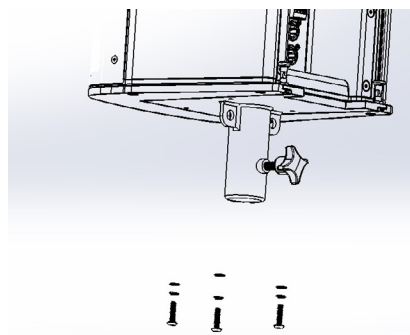

Figure 4 - secure screws and washers to Pole Mount & Cabinet
3. Install flat washers (F), locking washers (E) and M5x22 screws (D) to secure Pole Mount Plate in place (Figure 4)